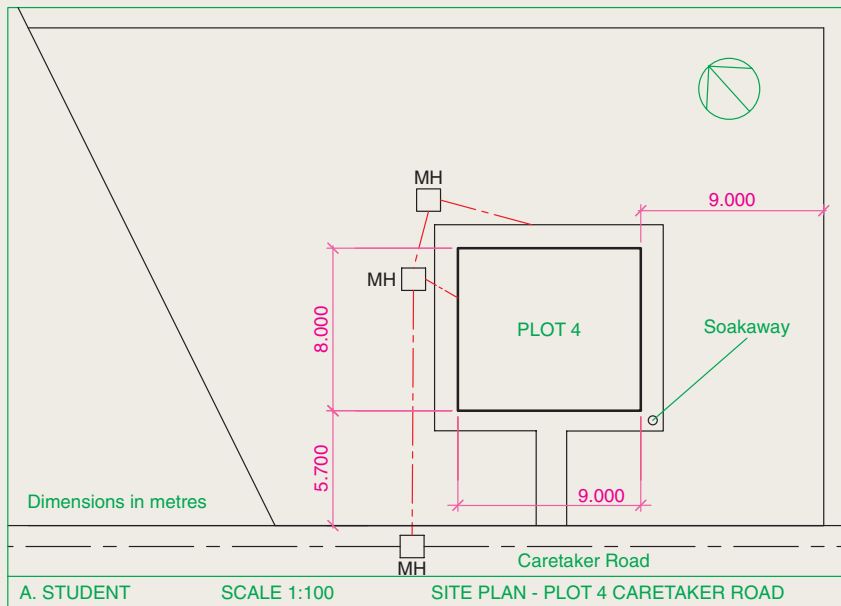
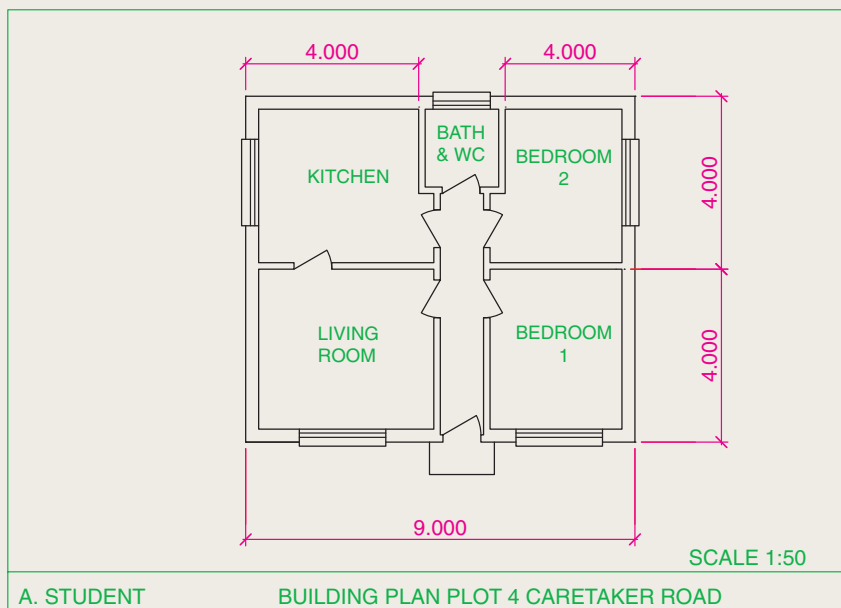

Fig. 16.30 Exercise 3 – site plan
Fig. 16.31 Exercise 4 – a building plan
3. Fig. 16.30 shows a scale 1:100 site plan for the proposed bungalow 4 Caretaker Road. Construct the floor layout for the proposed house shown in the drawing Fig. 16 28.
4. Fig. 16.31 shows a building plan of the house in the site plan (Fig. 16.30). Construct a 3D model view of the house making an assumption as to the roofing and the heights connected with your model.